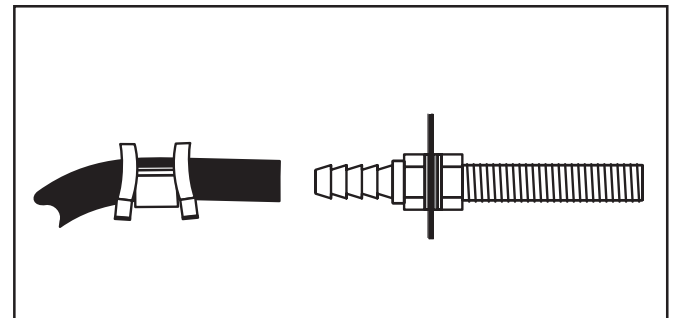

Figure 8
13. Slide air line clamp over the air line. Push air line onto fitting covering all barbs. With pliers slide the air line clamp forward until it fully covers the barbed section (Figure 8).
9. Slide air clamp over the air line. Push the air line over the fitting, covering all the barbs (Figure 8).
11. With pliers slide the air line clamp forward until it fully covers the barbed section (Figure 8).